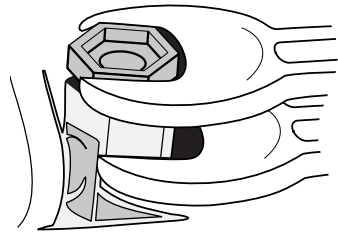

Figure 6
- 6.1.2. Hold a wrench across the flats of the inlet connector assembly to prevent damage to the connector, and unscrew the inlet filter (refer to Figure 6).